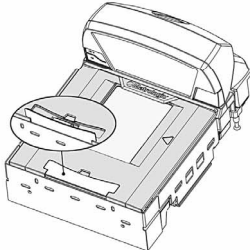

*Figure 76. Calibration Switch/Button Wire Security Seal Assembly.*
5. Continue to thread the wire through the wire lock at the other end forming a loop (see *Figure 76*).